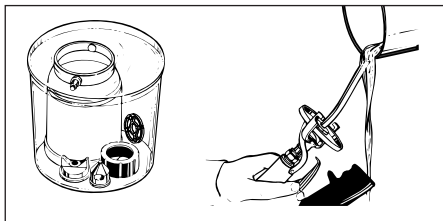

Figure 11 - Cleaning Spray Gun Parts
- Place the parts and the paint cup in a bucket or other suitable container. Soak in an appropriate solvent, or in soap and water if latex was used. To clean the gun, pour solvent through material tube until the solution clears (See Figure 11).